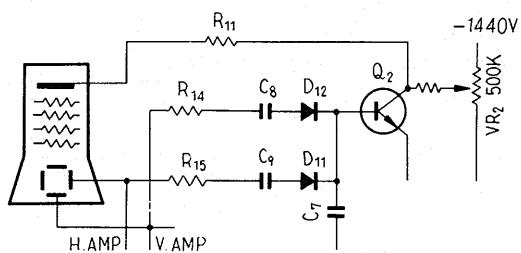

Fig. 8
6.5 SPOT KILLER CIRCUIT (Fig. 8)
Fig. 8 shows the simplified circuit diagram. The switching transistor Q_2 , is connected with its base to both the vertical and horizontal deflection plates through diodes D_{11} , D_{12} , capacitors C_8 , C_9 (which isolate the transistor from the high DC voltage at the deflection plates) and through resistors R_{14} , R_{15} . The